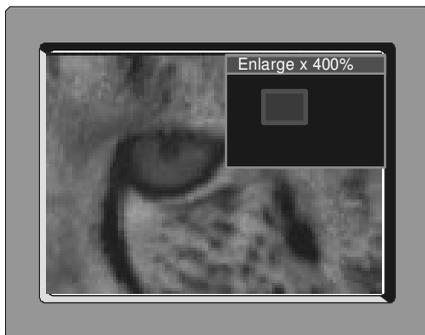

Figure 26: OSD Enlarge Status
3 A small rectangle inside a transparent pop-up OSD Enlarge status box appears at the top right corner of the screen showing the position of the zoom within a picture (see Figure 26)
The zoom ratio and the zoom position are illustrated by a small rectangle inside a transparent pop-up OSD Enlarge status box that appears at the top right corner of the screen, as the example in Figure 26 illustrates:
- Using the Zoom + and/or the Zoom - control keys1 on the infra-red remote control transmitter (see Figure 16). The pop-up OSD Enlarge status box continuously displays the zoom ratio and position, as Figure 26 illustrates